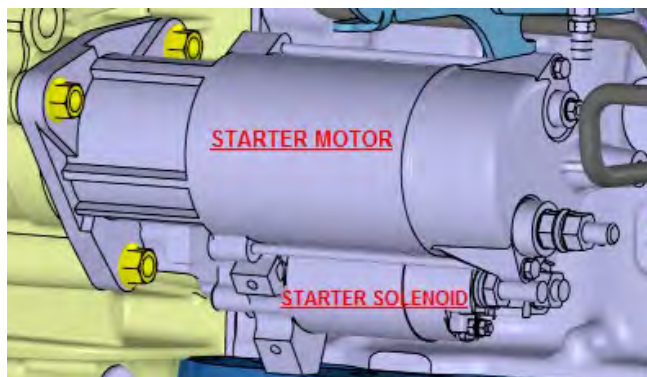

FIGURE 8
2. Install the replacement starter with the solenoid located on the underside of the starter motor as shown on **FIGURE 8**.